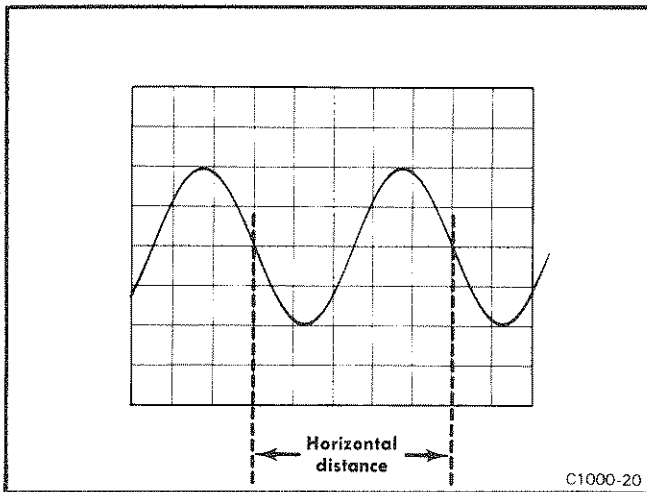

Fig. 1-4. Measuring time duration (period) between points on a waveform.
2. Set the time-base triggering controls to obtain a stable display. Set the Seconds/Div switch to the fastest sweep rate that will permit displaying one cycle of the waveform in less than eight divisions (some non-linearity may occur in the first and last graticule divisions of display). Refer to Fig. 1-4.